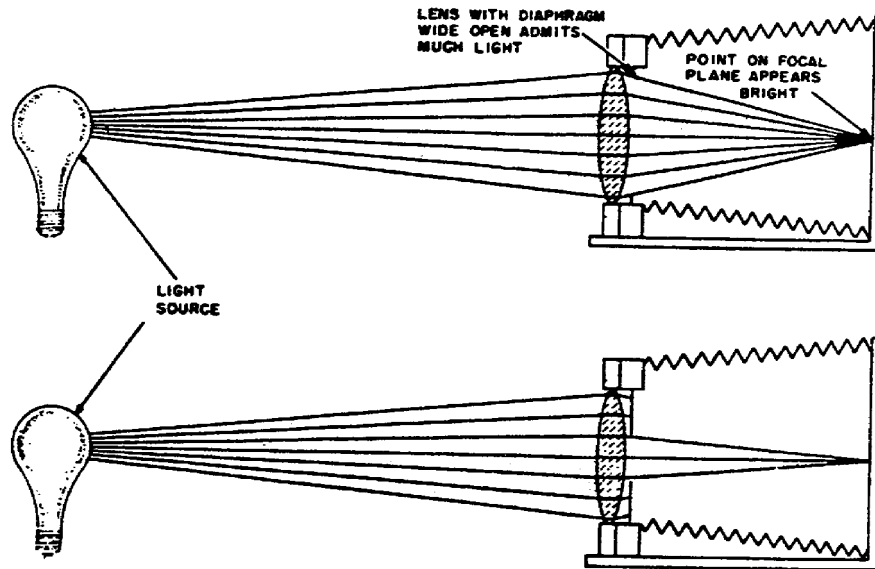
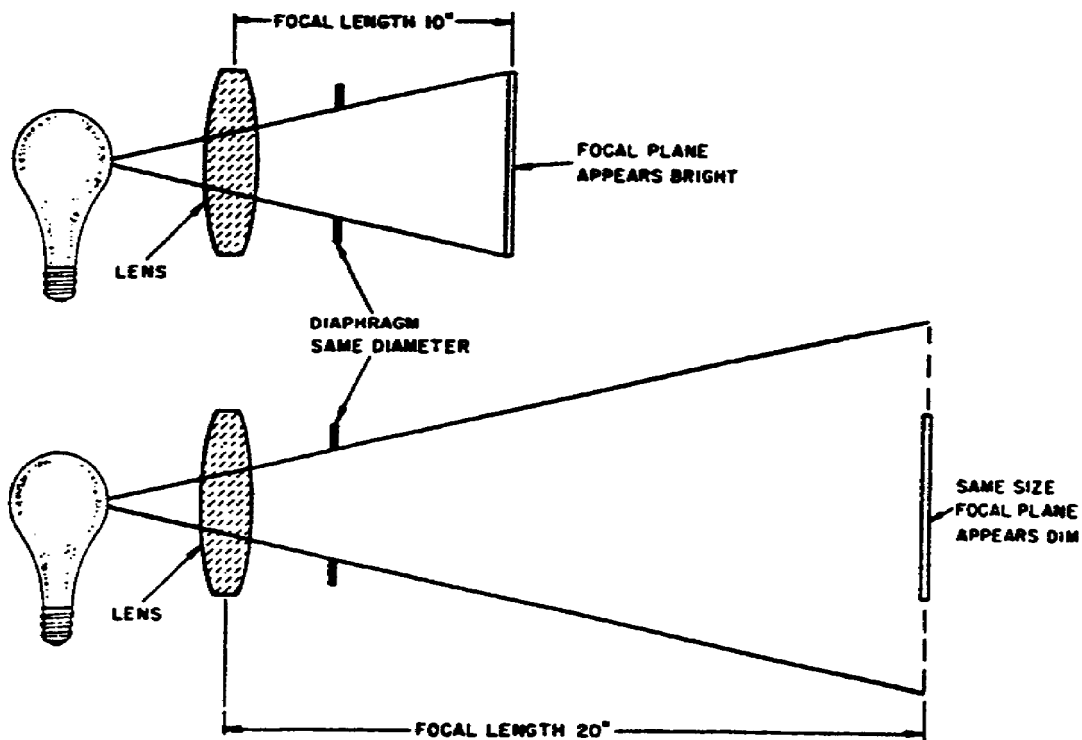
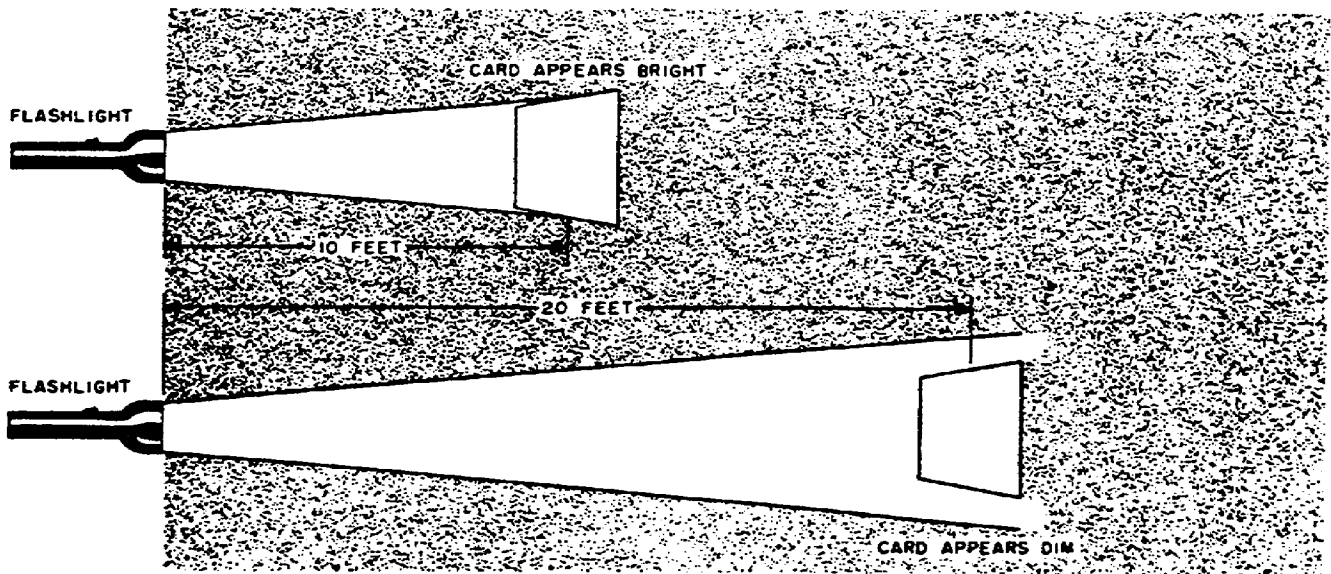

Figure 2-9. Effect of diaphragm opening.
Figure 2-10. Relationship of focal length and light source.
Figure 2-11. Effect of distance on brightness.
a. Light intensity. The intensity of the light transmitted by a lens depends upon the diameter of the aperture (diaphragm opening), the number of lens elements, the number of reflecting surfaces, and the focal length of the lens, (fig 2-9). With other factors remaining constant, a large aperture admits more light, or is faster, and a longer focal length decreases the light intensity, or is slower, (fig 2-10). In the same way that a card gets dimmer as a flashlight is moved further away from it, a photographic image becomes dimmer as the focal length is increased, (fig 2-11). This is because light must travel a longer distance to reach the focal plane.